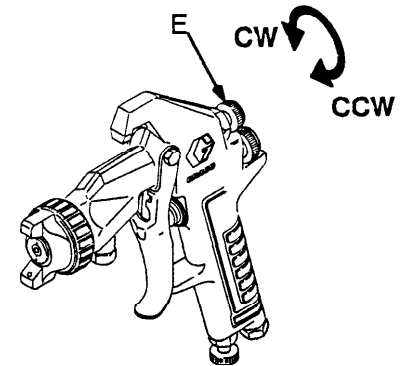

Fig. 9
- Be sure the gun's fan pattern adjusting valve (E) has been turned OUT fully clockwise and then turned IN two full turns. See Fig. 9.
- Adjust the fan pattern adjusting valve (E) to fine tune the spray pattern. Turn *counterclockwise* to widen spray pattern. Turn *clockwise* to narrow spray pattern. See Fig. 9.